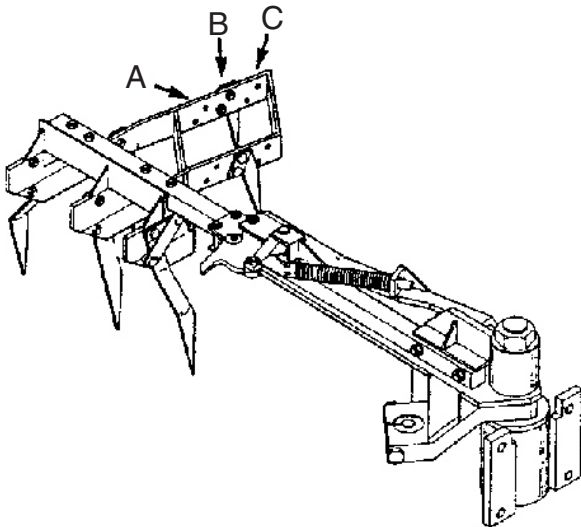

Figure 120. Feed Fork
The two forward tines on the feed fork are adjustable. The tines can be fastened to the feed fork in position A, B or C, Figure 120. The normal position is (B).